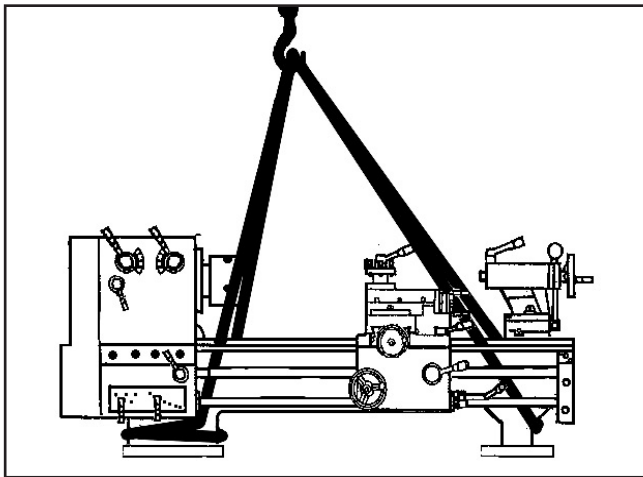

Figure 8. Lifting strap locations.
1. Wrap two lifting straps around the bedway pedestals and route them behind the feed rod, control rod, and the lead screw, as shown in **Figure 8**.
2. Move the apron toward the right to help balance the load, as shown in **Figure 8**.